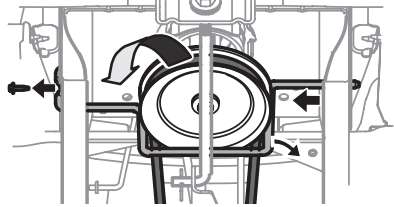

Figure 38
5. Remove the hex screw securing the engine pulley keeper rod to the frame (Figure 38).